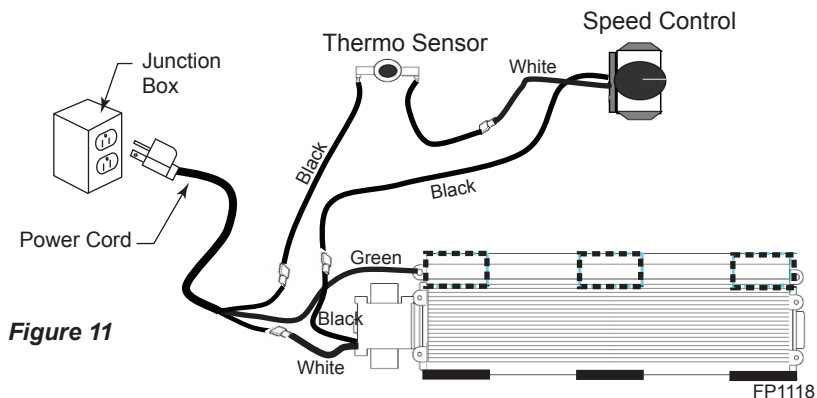

Figure 11
2. Plug in power cord to junction box. Figure 11